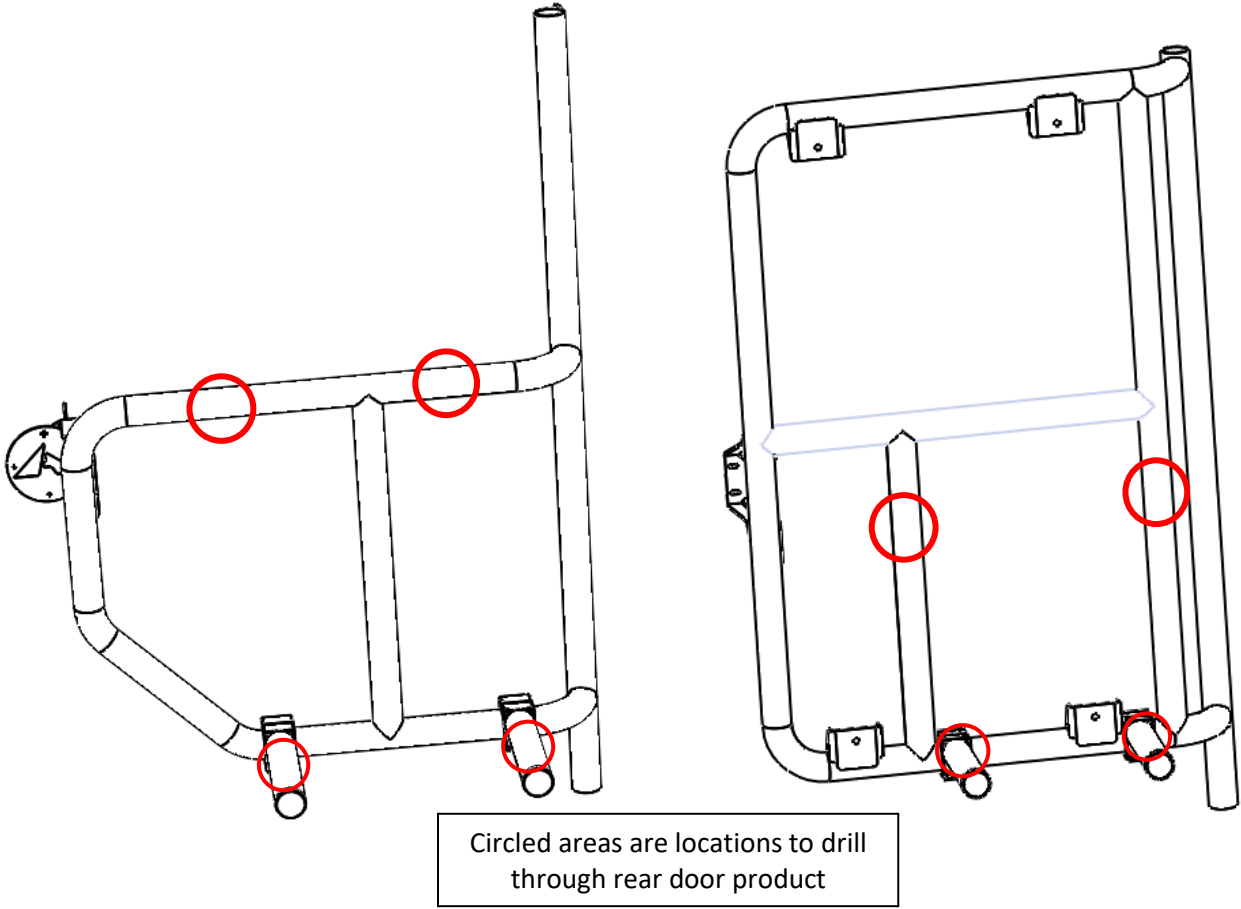

Figure 2: Drill and Bolt Locations for Rear Door Products
- a. First - Two of the holes should be drilled through the bottom of the box and through the support stands (see Figure 2 for location).
- b. Second - The other two holes should be drilled through the back of the box and rear door product tubing (also seen in Figure 2).